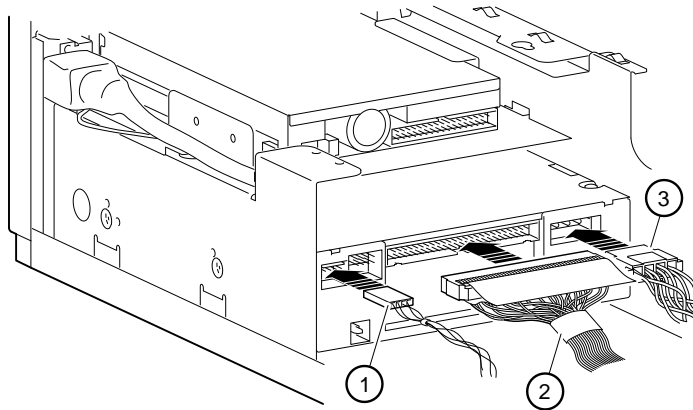

Figure 3-22. Cabling the Drive
7. Connect the audio ① (if appropriate, for CD drives), SCSI ②, and power ③ cables, as Figure 3-22 shows.